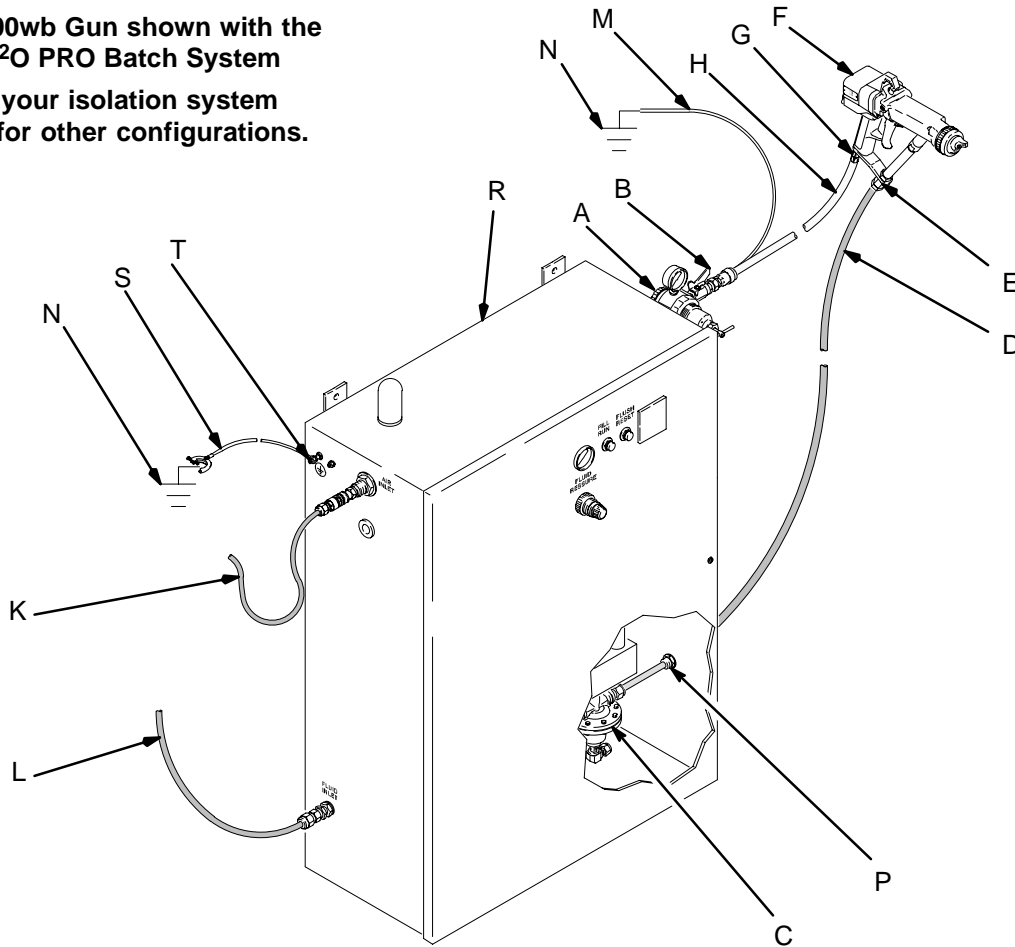

Fig. 3
Fig. 3, page 10, shows a typical Model PRO 3500wb waterborne system. The particular type and size system for your operation must be custom designed for your needs. For assistance in designing a system, contact your Graco representative.
KEY-Fig. 3
2. Install a bleed-type air regulator (A) on the pump and gun air supply lines to control air pressure to the pump and gun. Refer to Fig. 3, page 10.
3. Install a bleed-type air shutoff valve on the main air line, the pump air line (to shut off air to the pump), and the gun air line (B) (to shut off air to the gun).
Connect the red-colored Graco Electrically Conductive Air Hose (H) to the gun air inlet and connect the hose ground wire (M) to a true earth ground (N). Refer to Fig. 3, page 10. Check the electrical grounding of the gun as instructed on page 15. See page 48 to order the air hose.
2. A fluid regulator (C) is needed in the fluid line to control fluid pressure to the gun. Refer to Fig. 3, page 10.